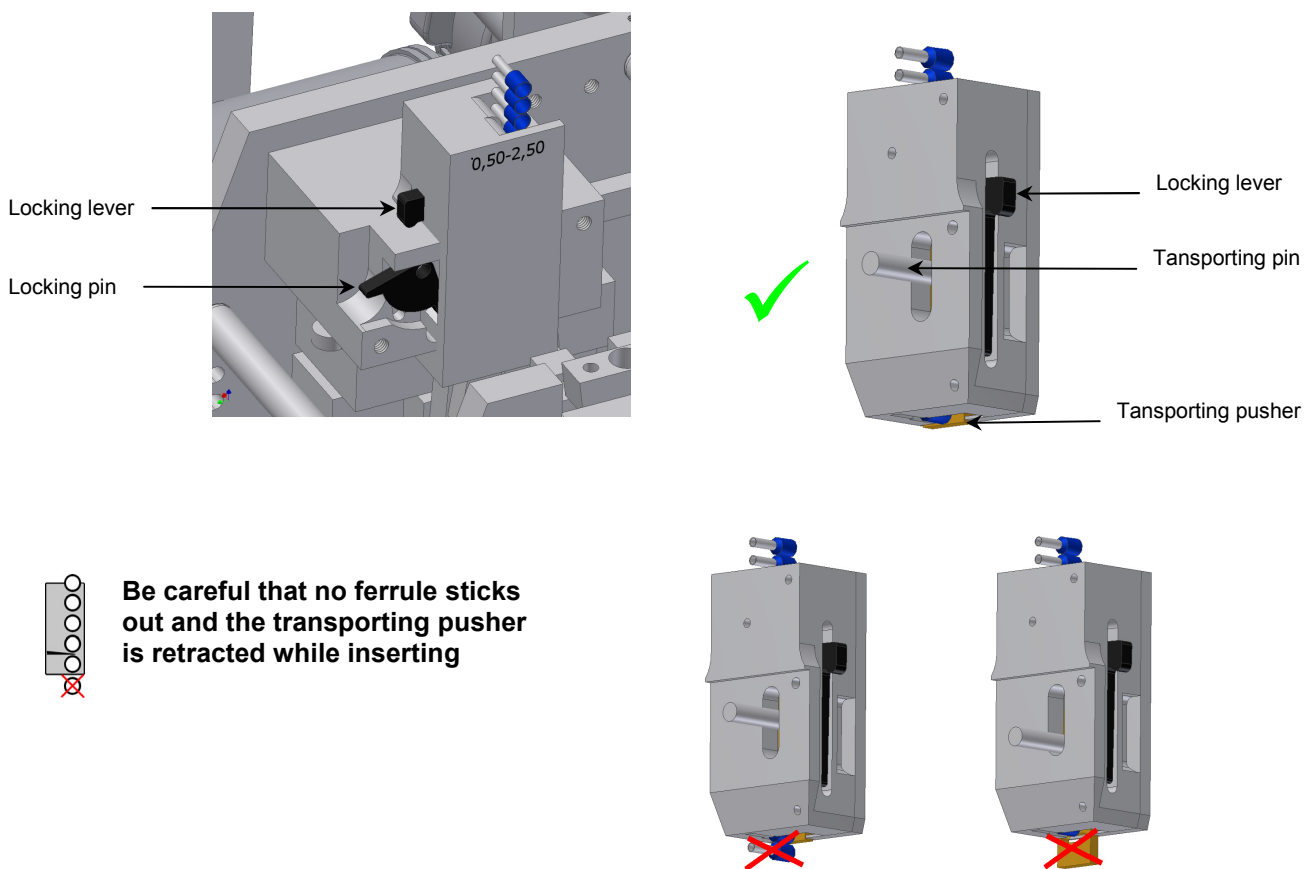

Figure 3: Magazine
- Release the locking pin (see Figure 3) and remove the magazine.
- Release the locking pin (see figure 3) and remove the magazine.